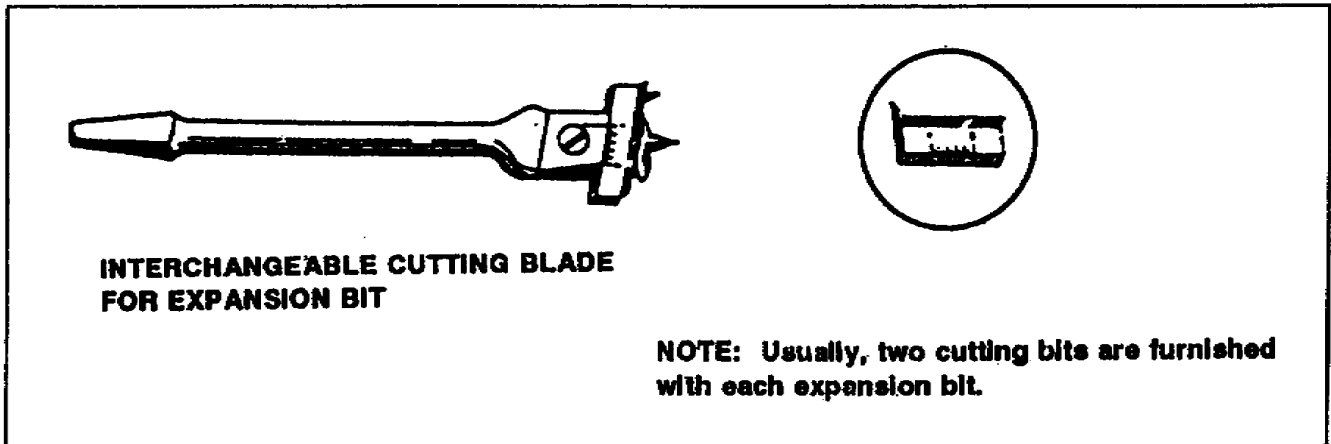

Figure 2-2. Expansion auger bit
(2) Expansion Auger Bit. An expansion bit (Figure 2-2) is used to bore a hole larger than 1 inch, such as for a door lock. Notice that the cutting bit has a scale for adjusting the size of the hole needed. The screw shown is used to lock the cutting blade into position. The screw must be tightened to keep the blade from moving and changing the size of the hole. This bit also has a tang to fit into the hand brace.